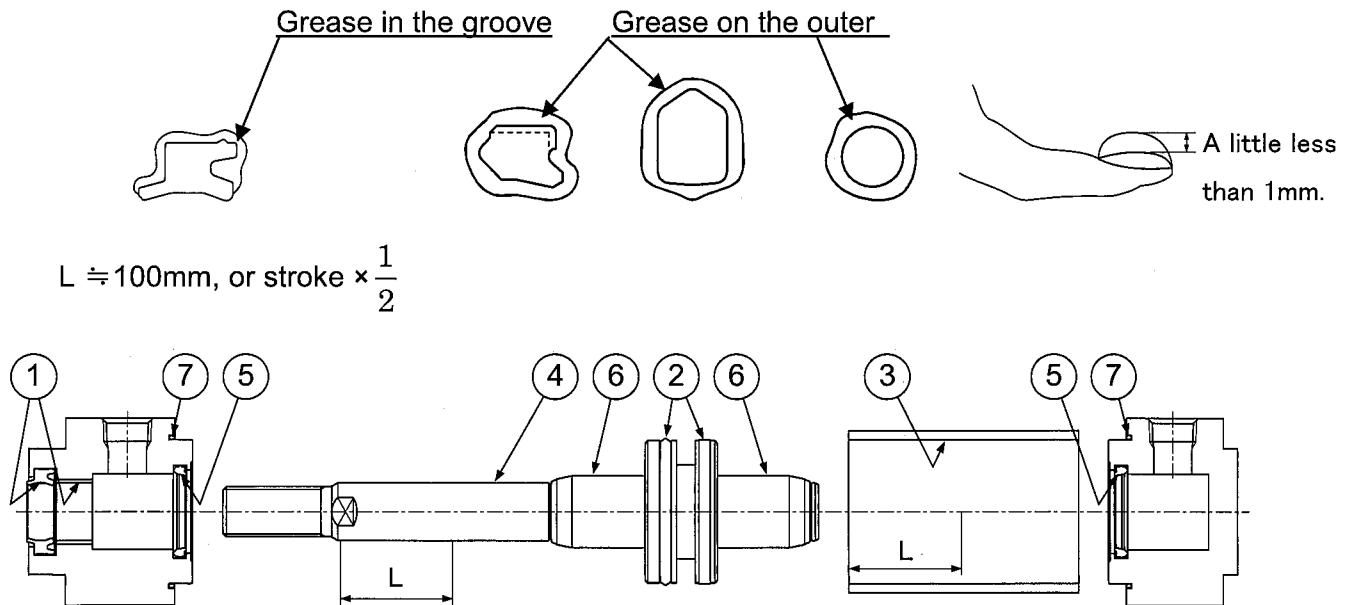

Fig. 12 Position for application of grease
Grease is applied to the locations shown in Fig. 12. The amount of grease per cylinder of 100 stroke is shown in attached table 9. Roughly, one scoop with a forefinger is approximately 3g.
1) Rod seal, Cushion seal (Fig.12, ①⑤)
2) Piston seal (Fig. 12, ②)
3) Tube gasket (Fig. 12, ⑦)